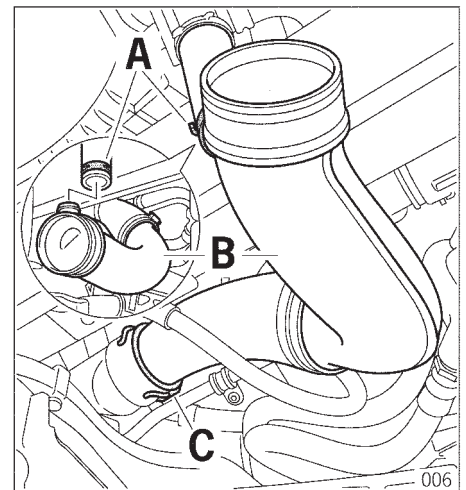

Figure 6
- 10.4.1** Loosen clamp, Figure 6, item A and pull bypass hose off pressure pipe and pressure hose, Figure 6, item B.
- 10.4.2** Lever out wire clip, Figure 6, item C using a screwdriver and remove pressure pipe and pressure hose, Figure 6, item B. Put wire clip back into installation position immediately.